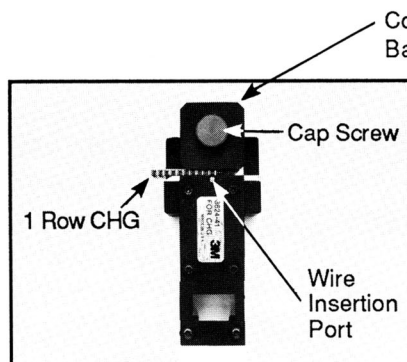

Figure 2
2. The 3624-41 Assembly Head is used for the 1 and 2 row non MIL-DIN polarized CHG connector. The **connector backstop** must be set correctly to accommodate a specific connector style. To setup the connector backstop: remove the cap screw, rotate the **connector backstop** to the appropriate side and replace the cap screw. See Figures 2 and 3.